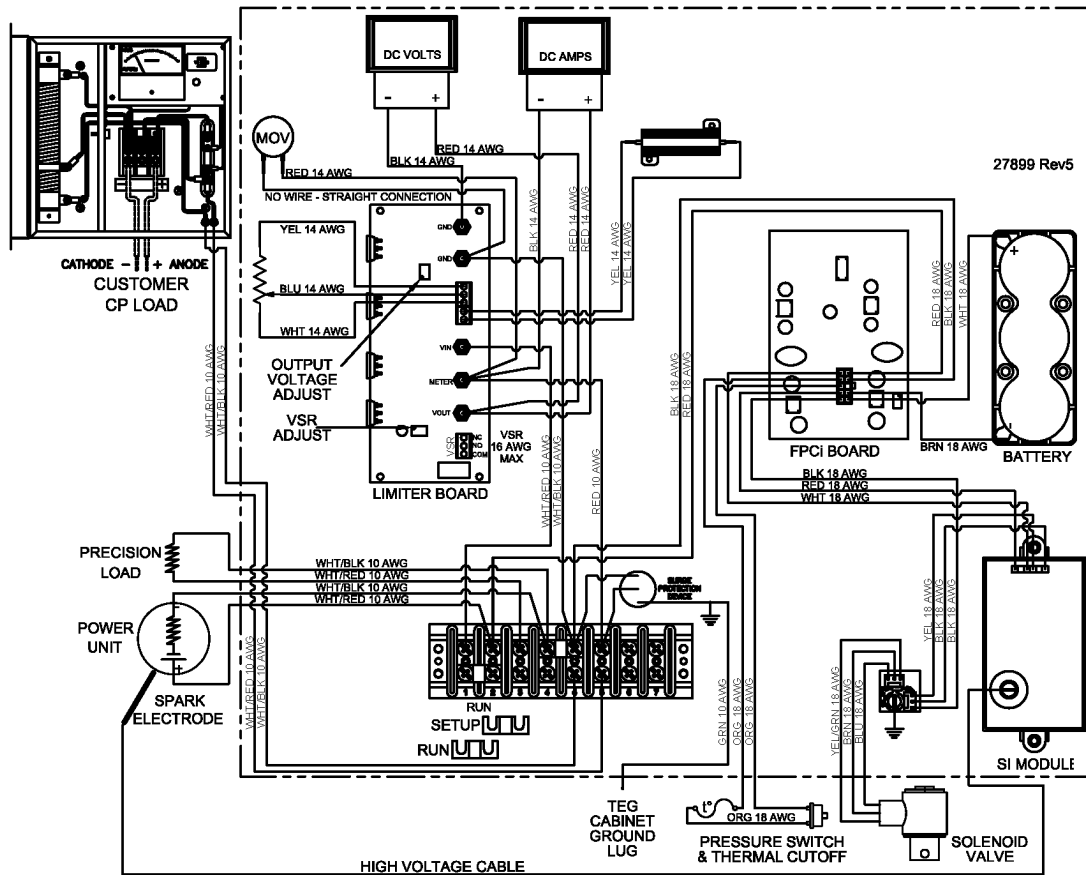
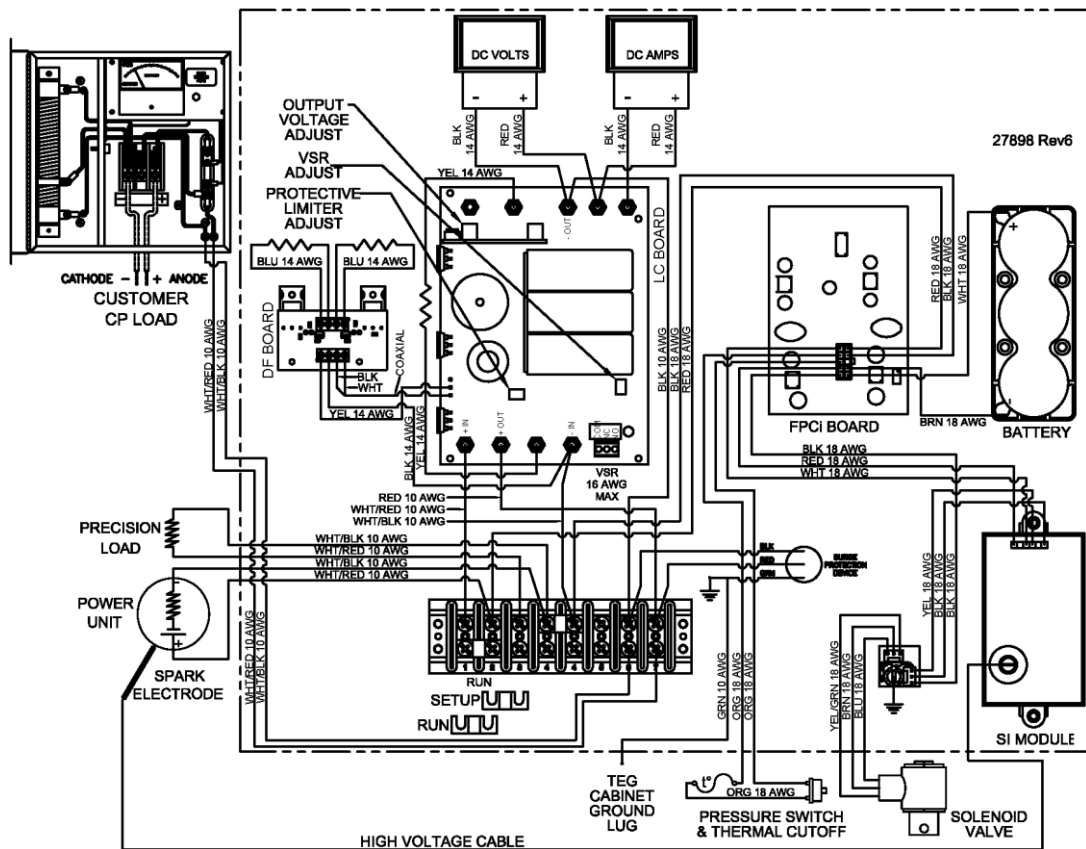

Figure 17 – CP Wiring for Model 5220-12 V, with Limiter Assembly
Figure 18 – CP Wiring for Model 5220-24 V, with L/C Assembly
1. Consult the wiring diagram (Figure 17 or Figure 18, as applicable).